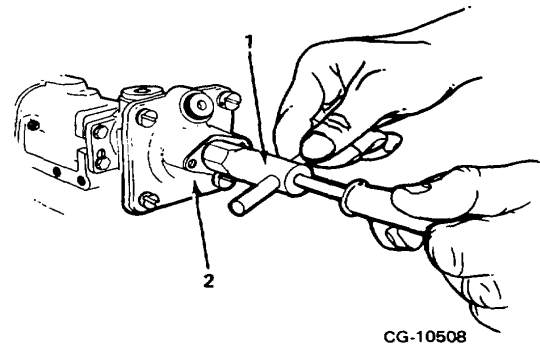

Figure 10. Adjusting Aneroid Cutback
- b. Using KDEP 1048 (Figure 10) turn socket head screw clockwise to increase power and fuel or counterclockwise to decrease power and fuel.